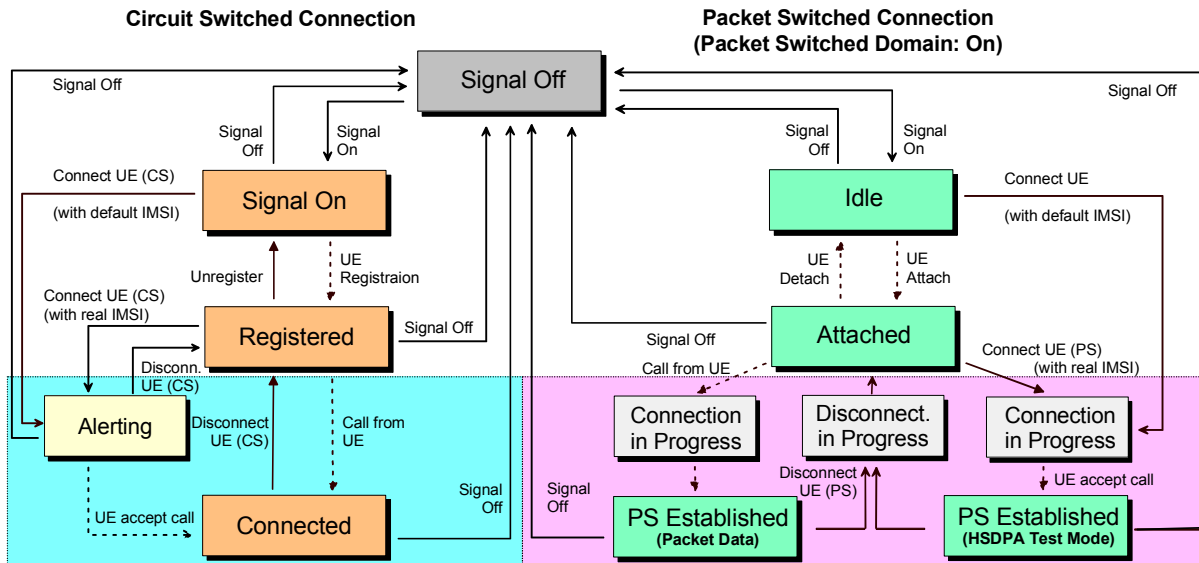

Fig. 84 Packet switched and circuit switched signalling states
A number of actions or control commands which can be initiated either by the CMU (e.g. *Signal On*, *Signal Off*) or by the UE (e.g. *MS Attach/Detach*) switch between the different signalling states. In Fig. 84 on p. 4.188, dashed lines represent processes initiated from the UE.
A packet switched connection is controlled by the *Signal On* and *Signal Off* and by the *Connect UE (PS)* and *Disconnect UE (PS)* softkeys in the *Connection* tab of the *Connection Control* menu. The remaining actions shown in Fig. 84 above can be initiated from the UE.